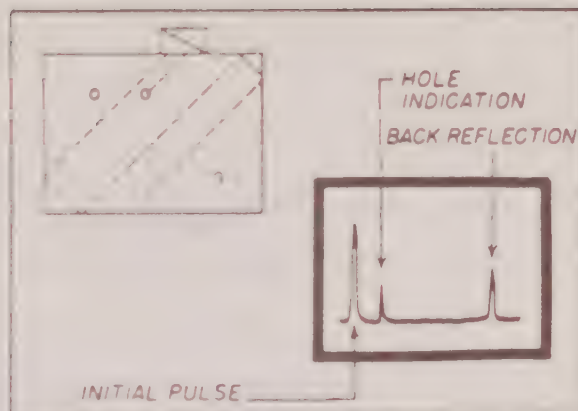

Figure 3-15 Increased Return From Middle Hole and Decreased Return from Corner Results In a Pattern As Above
- i. Move the search unit further to the left. This will bring about a growth of the middle hole reflections and a reduction of the return from the opposite corner of the block. (See Figure 3-15).